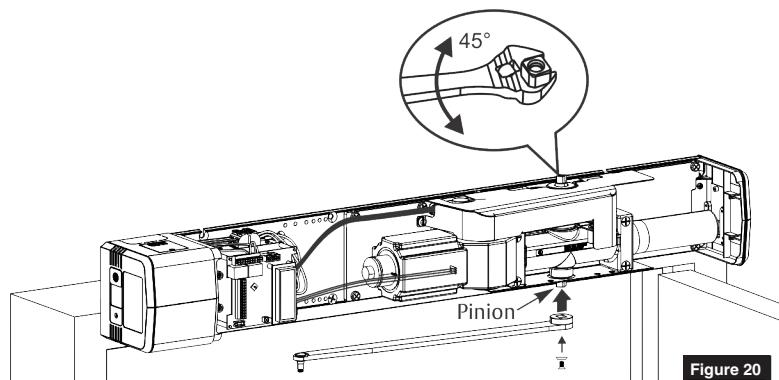

Figure 20
- Using an adjustable wrench, rotate top pinion 45 degrees toward door hinge. You will feel resistance from spring. (Figure 20)
- Secure arm to pinion with 1/4-20 x 1/2" screw and countersunk patch washer. (Figure 20)